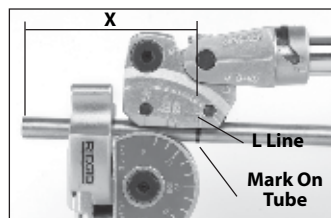

Figure 6 – Before
- Mark the tube at the desired distance (X) from the feature (end of tube, bend, etc.). The center of the leg of the bend will be this distance from the feature.
- If the feature is to the **LEFT** of the mark (see Figure 6 – Before), align the mark on the tube with the "L" line on the Carriage.